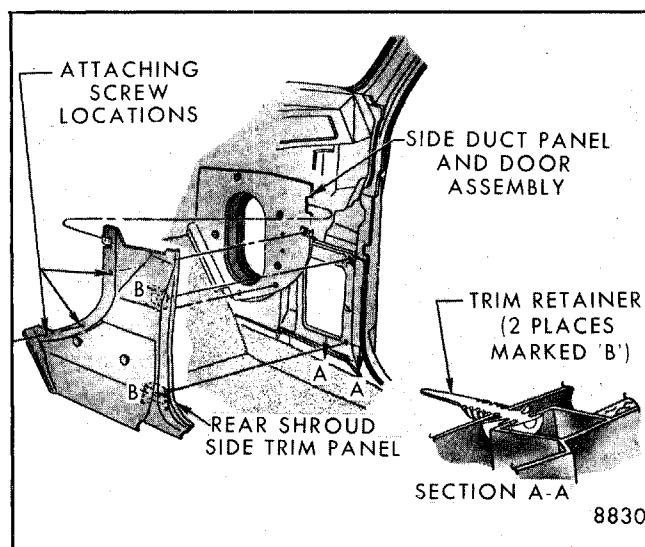

Fig. 4-15 - Rear Shroud Trim Panel - Right Side
2. Remove three screws securing rear trim panel to side shroud; then using trim removal tool J-24595, BT 7323 or equivalent, disengage two trim fasteners from side shroud panel (Fig. 4-15).